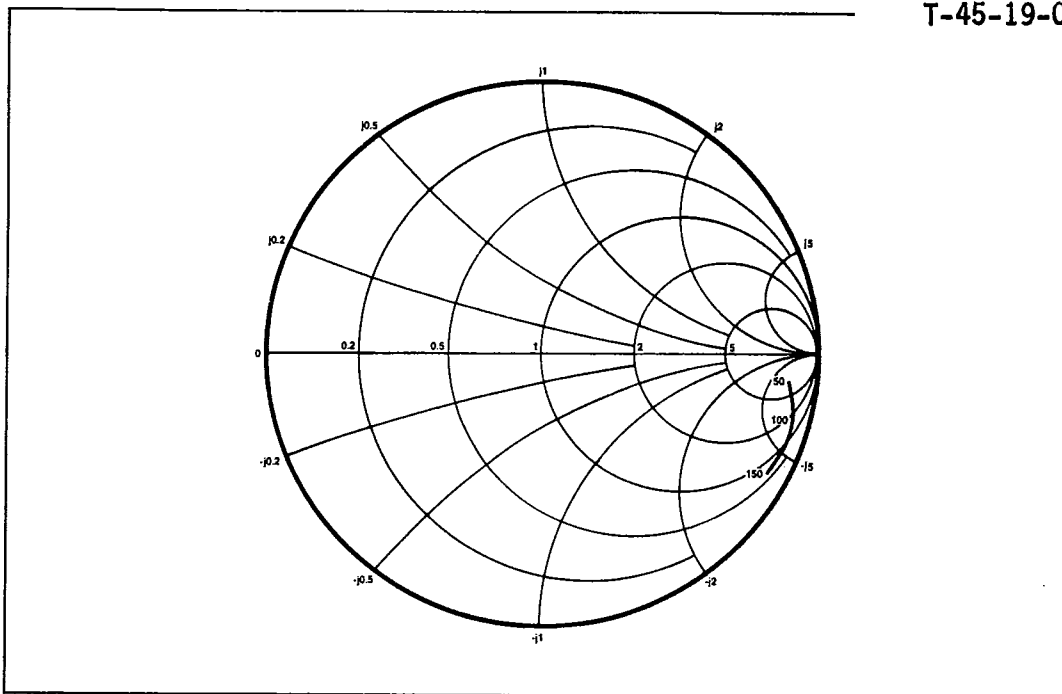

Fig.4 Typical input impedance. Test conditions: supply voltage 5.0V, ambient temperature 25° C, frequencies in MHz, impedances normalised to 50 ohms.
5. Input impedance is a function of frequency. See Fig. 4.